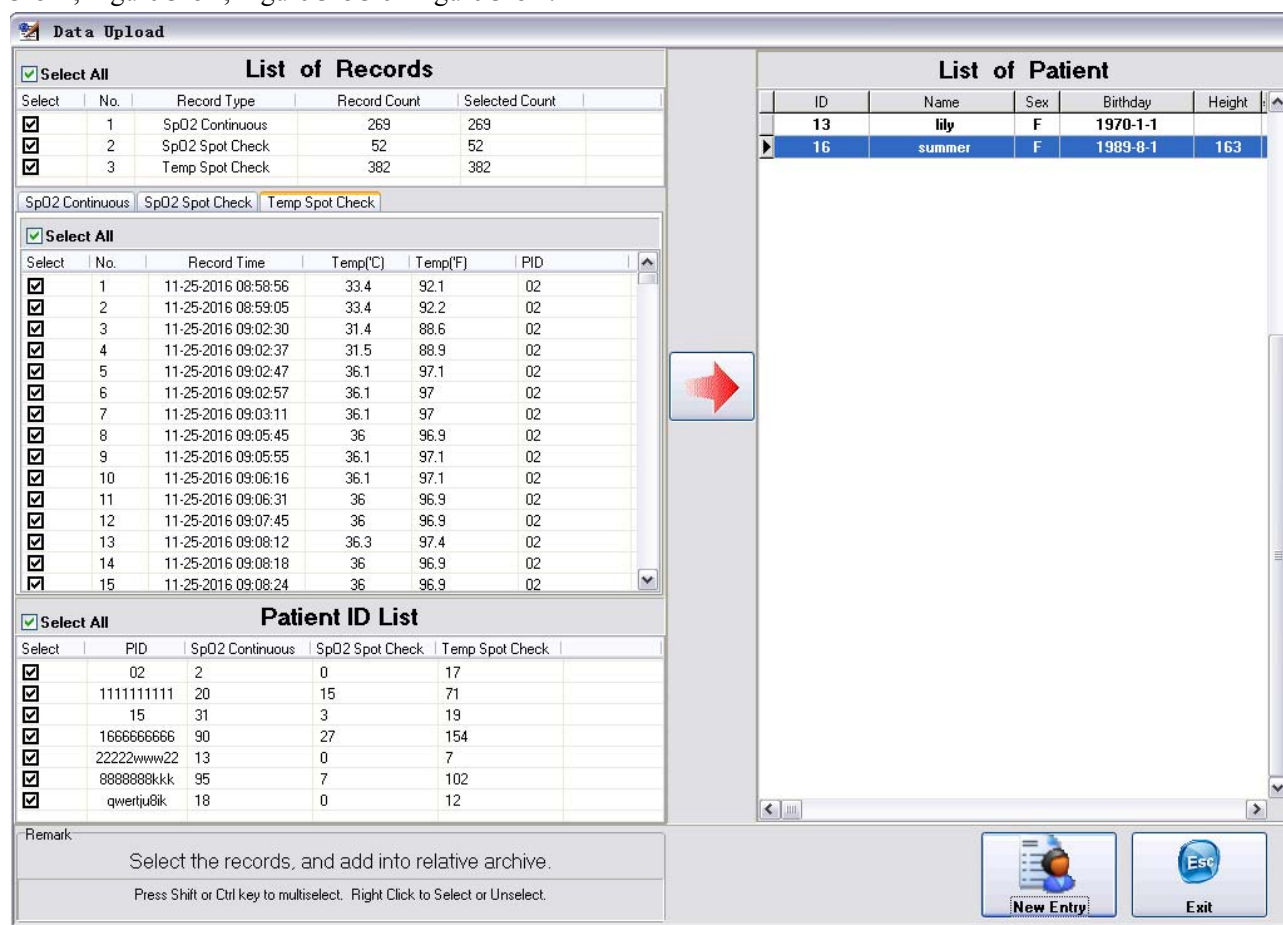
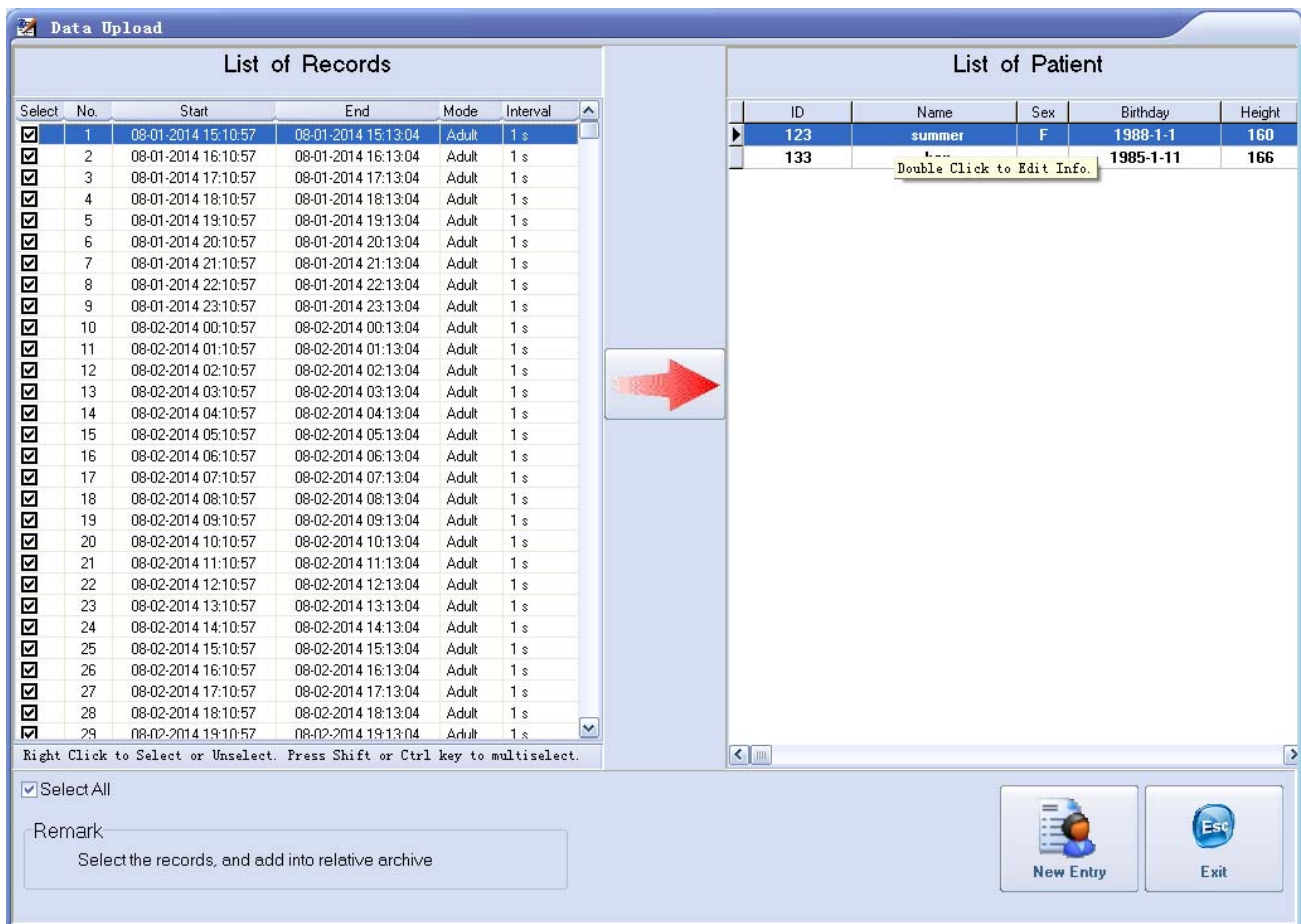
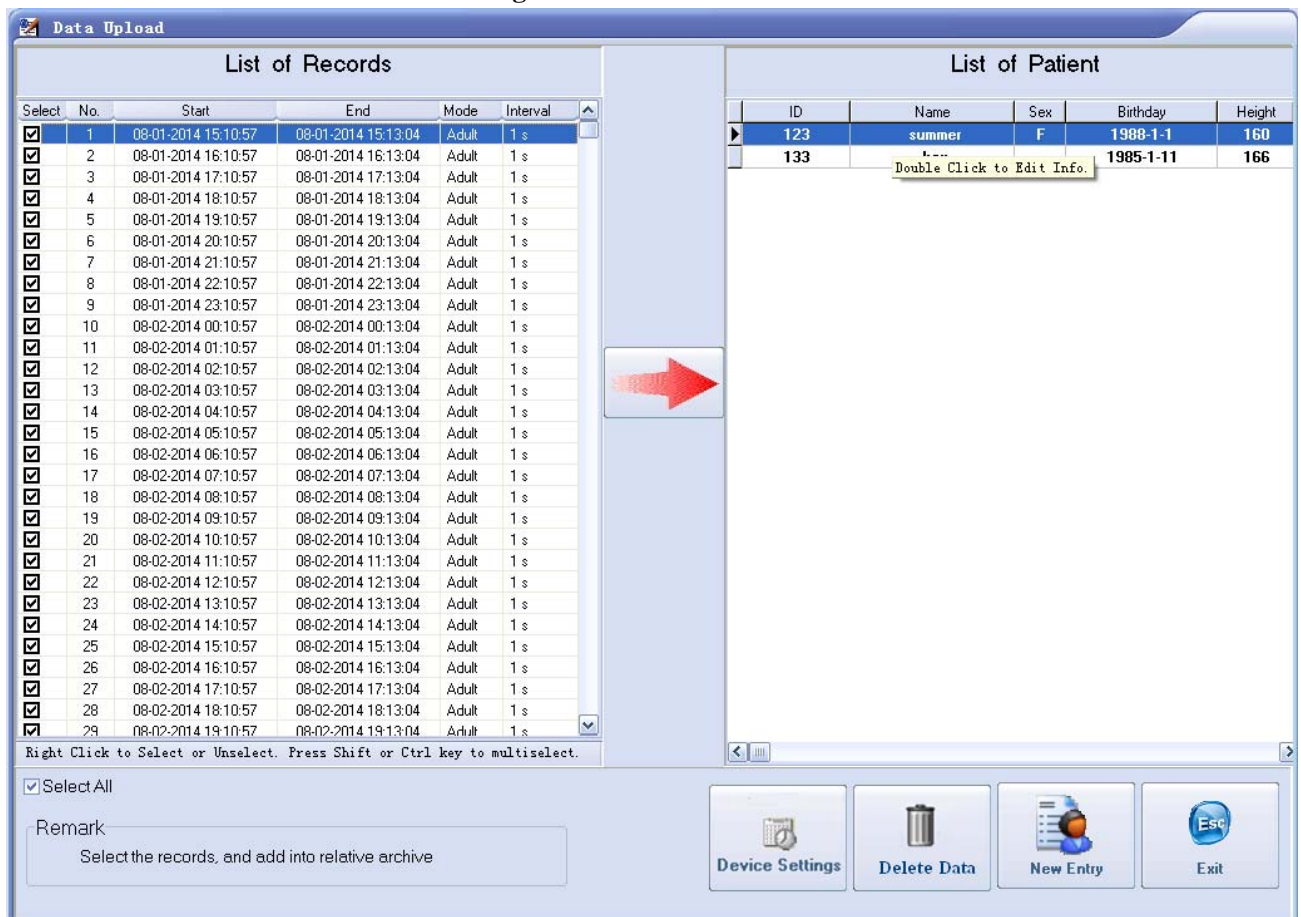
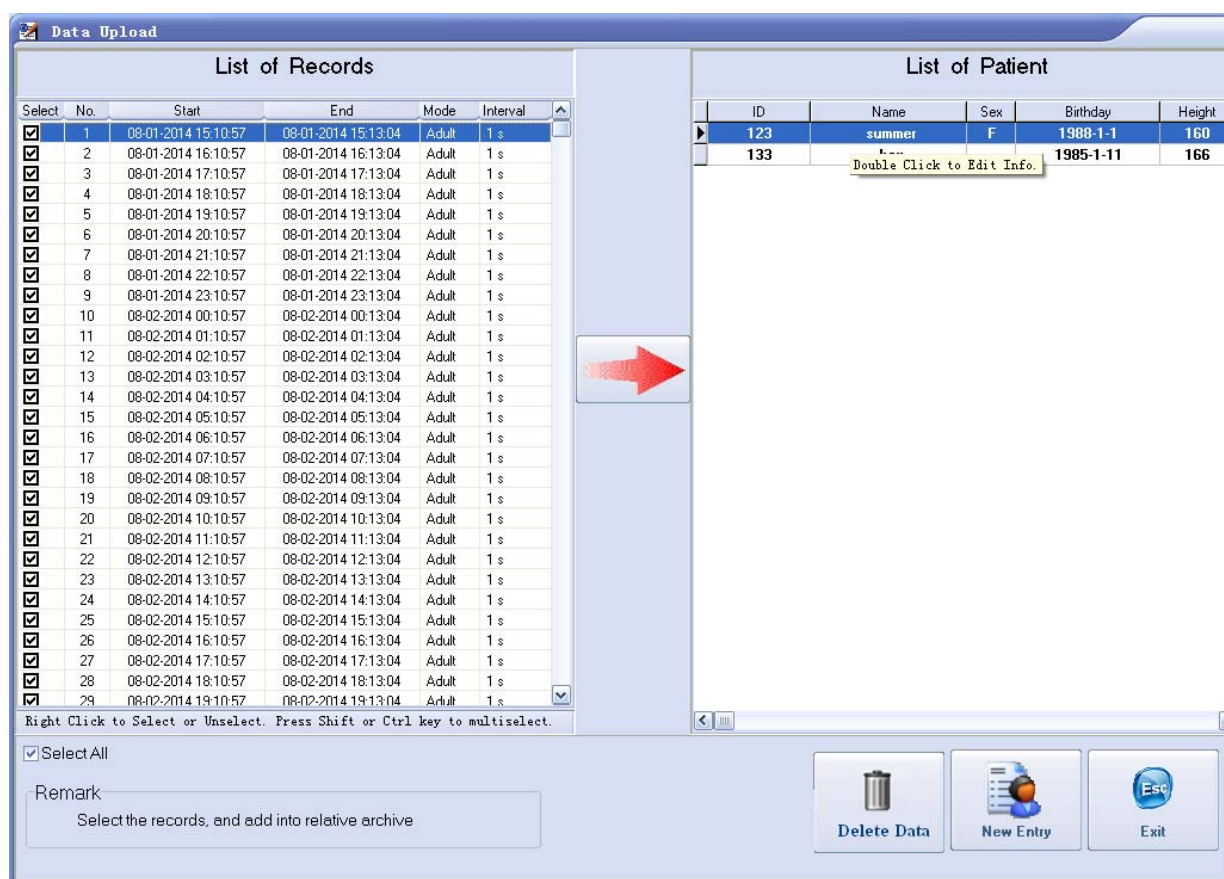

Figure 3-8A Add to archive
Figure 3-8B Add to archive
Figure 3-8C Add to archive
Figure 3-8D Add to archive
the data is read completely, then the screen displays Data Upload Main Screen, as shown in Figure 3.8A, please refer to the below section (3. **Data Upload Main Screen**) for details.
3. **Data Upload Main Screen:** After searching, the list of data records stored in the oximeter will be displayed on the screen, for different models of Oximeter, their data uploading screen will be different, as shown in Figure 3-8A, Figure 3-8B, Figure 3-8C or Figure 3-8D.
5. **Delete data stored in device:** After finishing upload, user can empty the memory of the device for recording new data; on the screen (Figure 3-8B or Figure 3-7C, the figure depends on the Oximeter model you used), click “” button, the dialogue box “Are you sure to delete all records in the oximeter?” pops up on the screen. Click “OK” for deleting all records or click “Cancel” for canceling the operation.